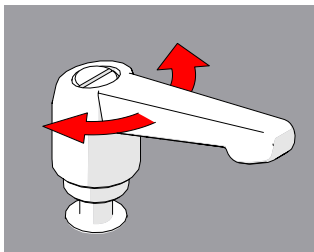

Fig. 65 - Rotate handle
2. Continue to pull while rotating the lever in the appropriate direction (Fig. 65).